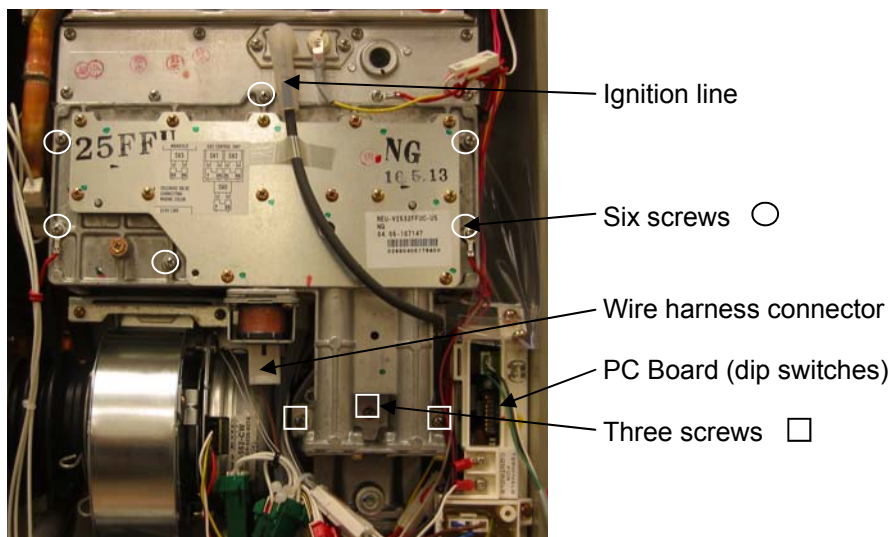

Figure 1
5. Pull out wire harness connector at the gas manifold assembly. See Figure 1.